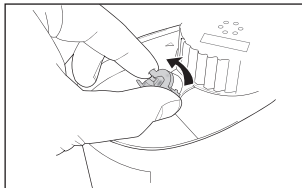

Fig. 2
2. Remove the top housing of the unit. Locate the steam nozzle, twist counter-clockwise and lift up the nozzle as shown, Fig. 2.